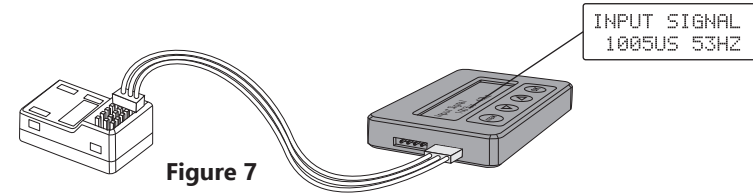

Figure 7
The BadAss ESC Programmer can also be used to read the value of the PWM signal coming out of the throttle channel of your radio receiver. This feature is extremely useful for troubleshooting the ESC if something is not working correctly. To read the value of the pulse, use a male to male servo extension and plug one end into the throttle channel output of your receiver and plug the other end into the 3-pin port on the side of the Programmer as seen in Figure 7 below. After powering up the transmitter and receiver, press and hold both arrow buttons down at the same time for 3 seconds, then select the Input Signal option. The display will show the width of the pulse in micro-seconds (US) and the repetition frequency of the pulse in Hertz (HZ).